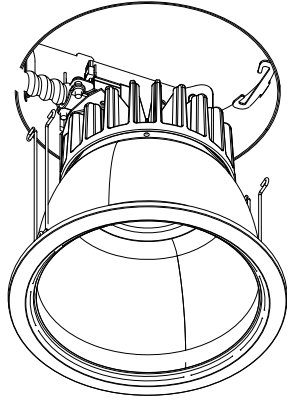

Figure 4
4. For trims with torsion springs, compress torsion spring and insert into receiver in plaster ring and push up to seat. See Figure 4.